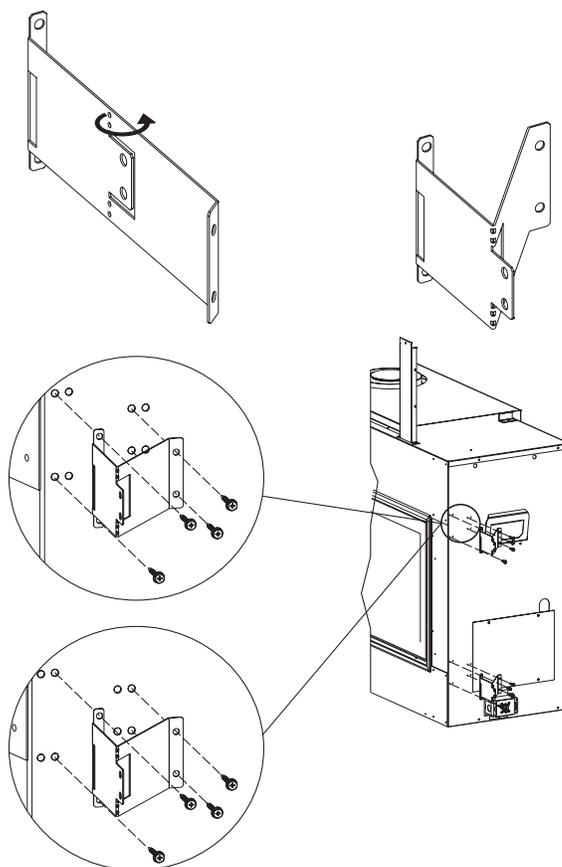

Figure 24
3. Secure the four framing brackets and hand bend them into a V shape as shown in **Figure 24**. Secure with #10 x 1/2in hex-head screws.
4. Locate the nailing flanges on the sides of the fireplace (two each side). See **Figure 24**.